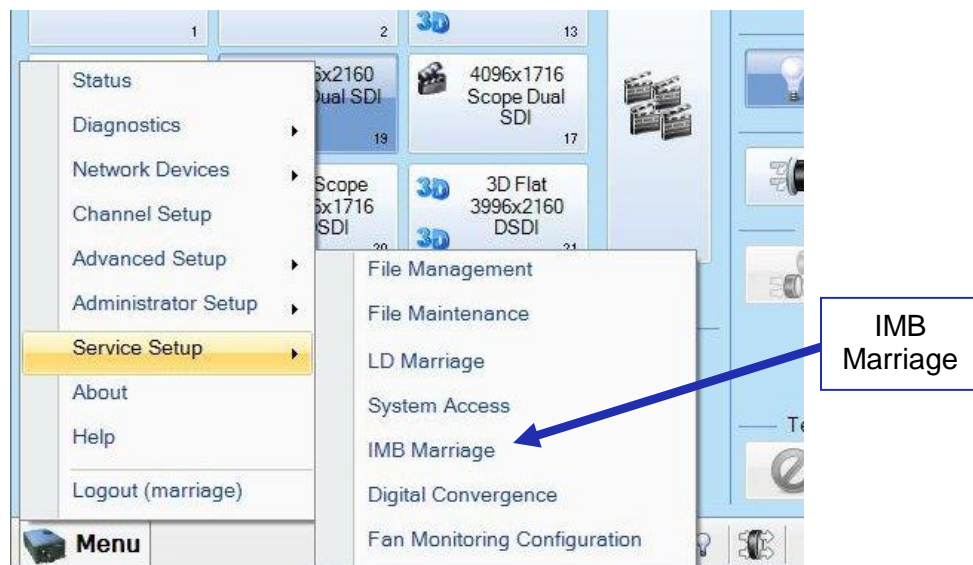

Figure 87: IMB Marriage
- Go to Menu → Service Setup → IMB Marriage (Figure 87).